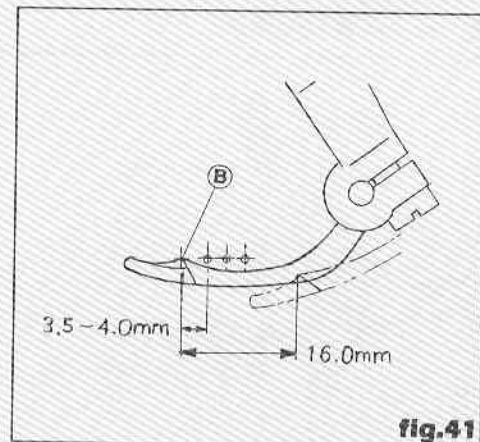

fig.41
And there is a clearance about 3.5-4mm between the hooking point (3) and the left needle when the spreader is in its left dead point (fig 41)
The spreader stroke is 16.0mm. (fig 41)